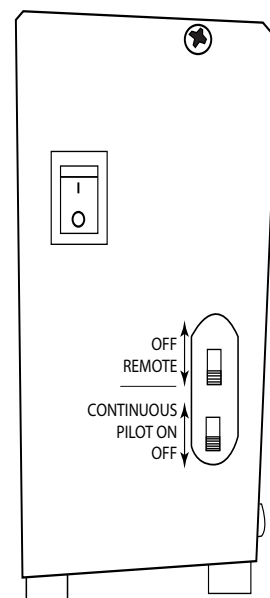
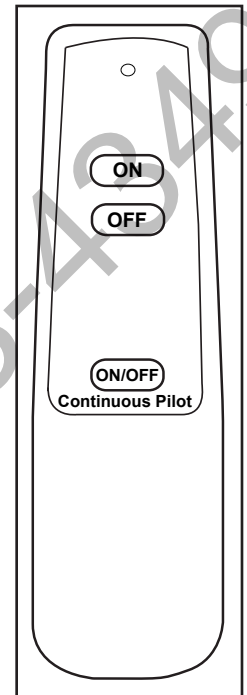

Fig. 16 Module Switches
Fig. 17 SP1001 Transmitter
The Continuous Pilot feature may be activated by placing the “Off/Continuous Pilot” switch located on the front of the valve kit in the “Continuous Pilot” position. See Fig. 16. When this switch is turned to the Continuous pilot position the pilot will immediately begin sparking to light the pilot and the pilot will remain ON.
To use the continuous pilot feature from the hand held remote control ensure the “Off/Remote” switch on the front of the valve kit is in the “remote” position. See Fig. 16. Simply press the button on the hand held remote marked “Continuous Pilot” (See Fig. 17). The pilot will immediately begin sparking to light the pilot and the pilot will remain ON.
1. There is a rocker switch located on the front of the Switch Box (See Fig. 16).
2. When the Remote/Off switch is in the OFF position the Switch Box will operate from the front mounted rocker switch (See Fig. 16). **NOTE:** "O" is Off and "I" is for Ignite.
2. Move the OFF/REMOTE slide switch on the front of Switch Box to the REMOTE position (See Fig. 16).
5. Optional check the position of the CONTINUOUS PILOT switch on the Switch Box (See Fig. 17).